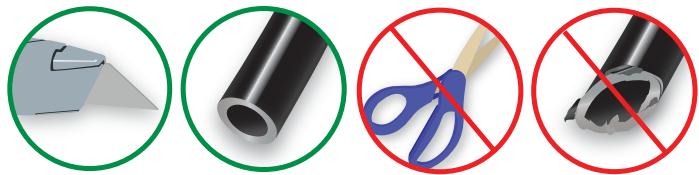

fig. 18
1. Cut the air line in half. Make clean, square cuts with a razor blade or hose cutter (Fig. 18). Do not use scissors or wire cutters.